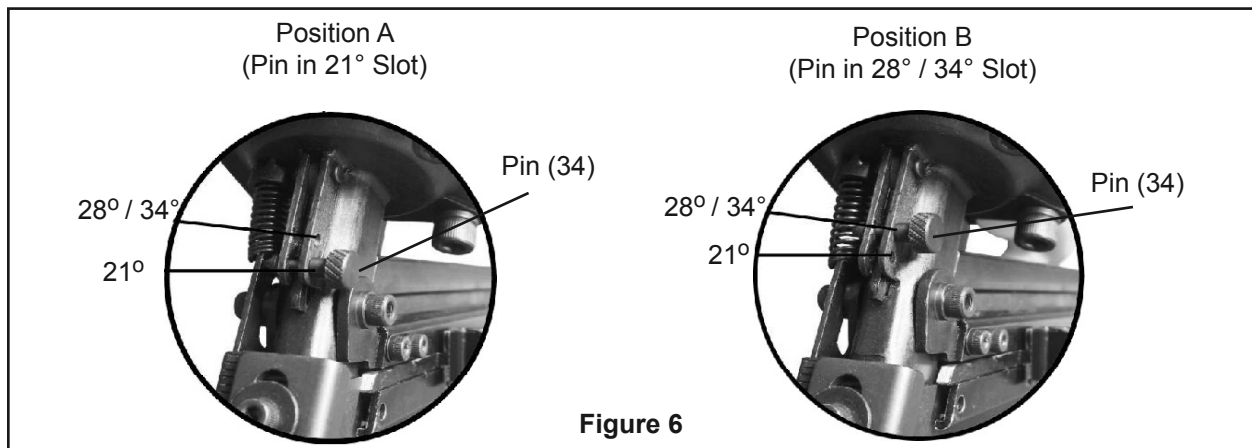

Figure 6
4. Inspect Pin's (34) location. See **Figure 6**, below. If you are driving 21° angle nails, the Pin should be in the lower hole (position A). If you are driving 28°